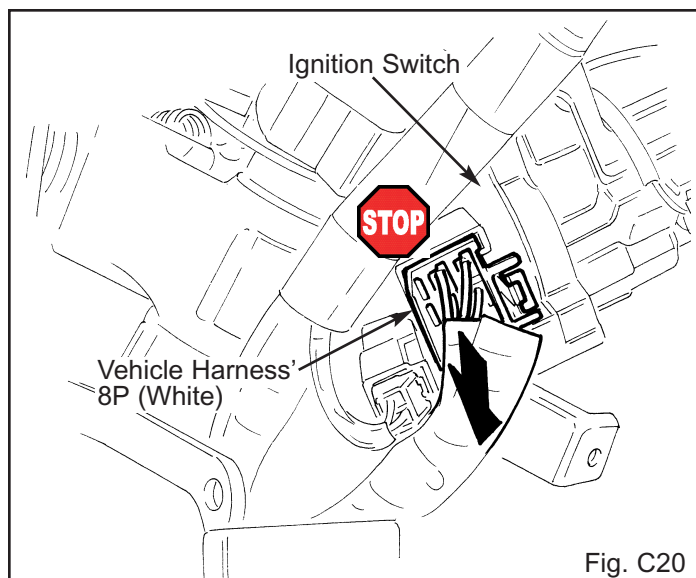

Fig. C20
38. Locate and disconnect the white 8P connector from the ignition switch. (Fig. C20)